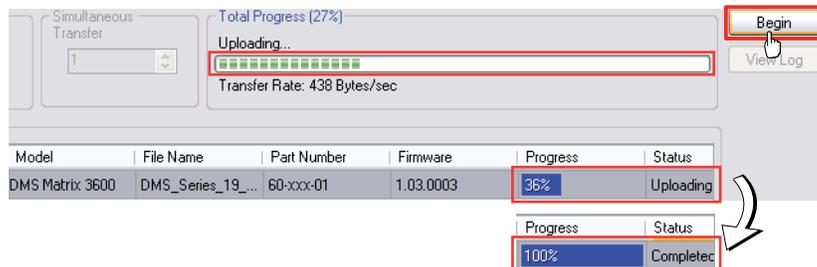

Figure 48. Firmware Loader Screen
3. In the **Firmware Loader** window, click **Begin** (see figure 48).